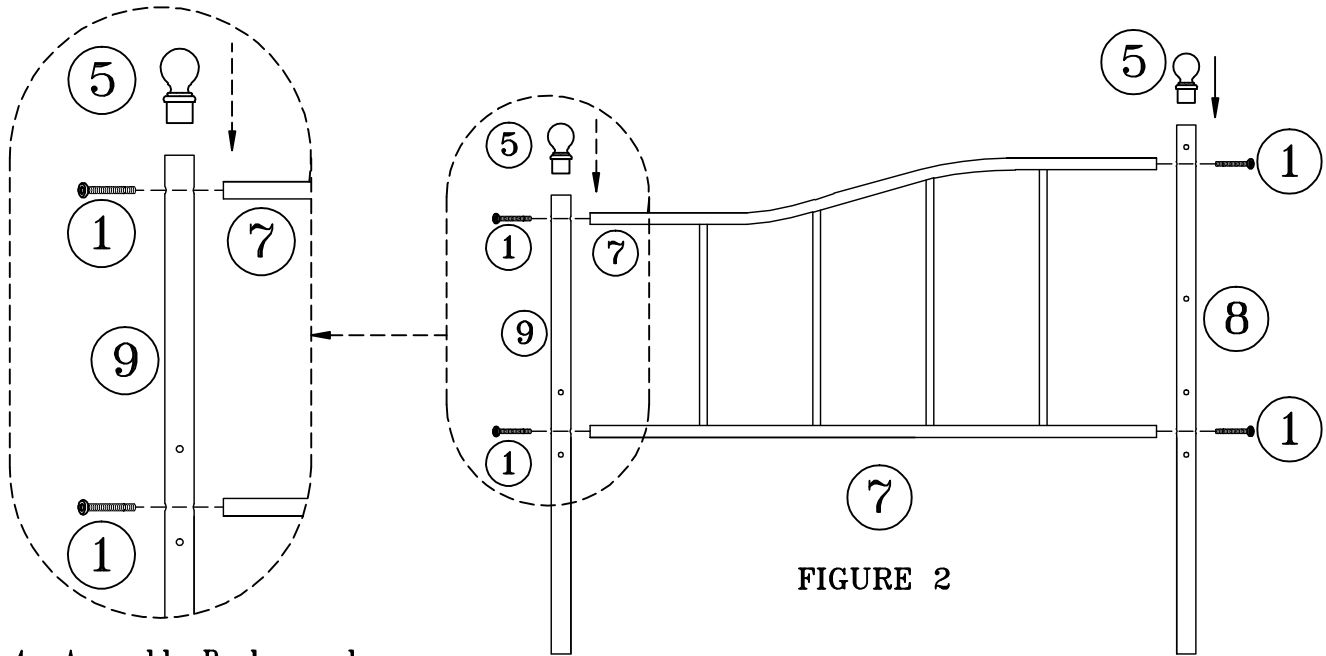

FIGURE 2
- Align side panel rail ends (7) to holes in front post (9) and back post (8). SEE FIGURE 2
- Insert screw (1) through holes on opposite side of post.
- Secure post with screw (1) use allen wrench (4).
- Align finial (5) over top of side panel back and front post and press downward. SEE FIGURE 2